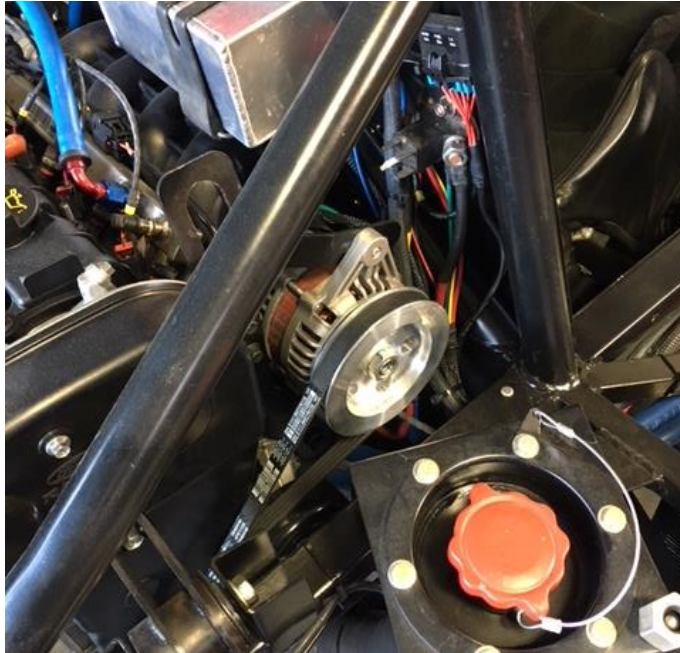

Figure 49 – Alternator Belt Routing
4. Route the belt as shown in Figure 49. Start with the belt on the new alternator pulley and